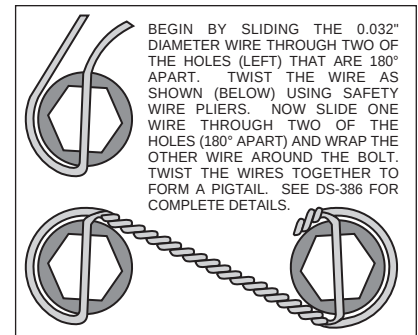

Figure 3. Safety Wire Diagram
- With the larger I.D. side of the rotor (7) facing away from the hat (8), bolt rotor (7) to the hat (8) through the backside of the rotor using washers (9) and bolts (10). Using an alternating sequence, apply red *Loctite*® 271 to the threads and torque bolts to 155 in-lb. For an added measure of security, the bolts may be safety wired using standard 0.032 inch diameter stainless steel safety wire as shown in Figure 3. Please refer to Wilwood's data sheet DS-386 (available at www.wilwood.com/Pdf/DataSheets/ds386.pdf) for complete safety wire installation instructions.